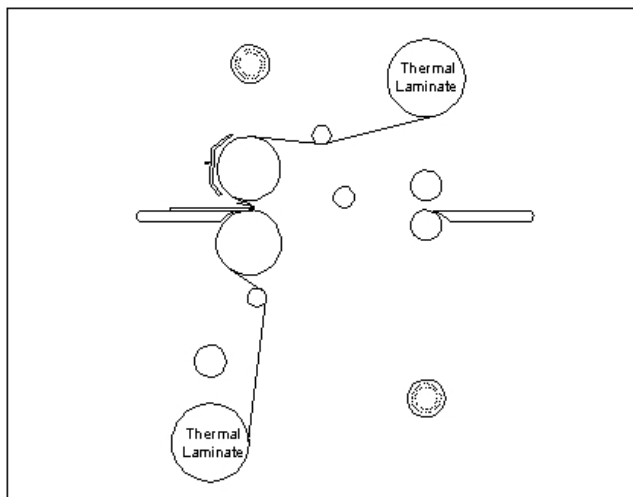

Fig 24
8. Pivot the table back to it's feeding position while ensuring the threading card is on top of the feed table (Figure 24).